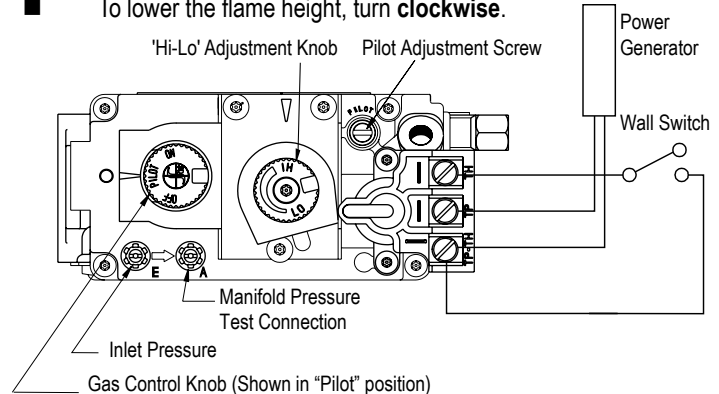

Figure 19. 'Hi-Lo' Adjustment on the SIT Nova 820 gas valve,
The L52DF-ST* is equipped with an adjustable burner, allowing you to raise or lower the flames. To adjust the flames, locate the black knob marked 'Hi-Lo', in the centre of the gas control valve (See **Figure 19**).
1. Locate Pilot Adjustment Screw. (See **figure 19 or 20**.)